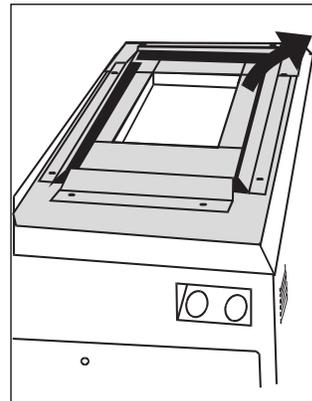

Figure 32. Removal of Rainguard Assembly
3. Remove the rainguard assembly (see Fig. 32). If installing an indoor Draught Diverter, discard the rainguard. If installing an External Flue Terminal, set the rainguard aside to be re-installed later.